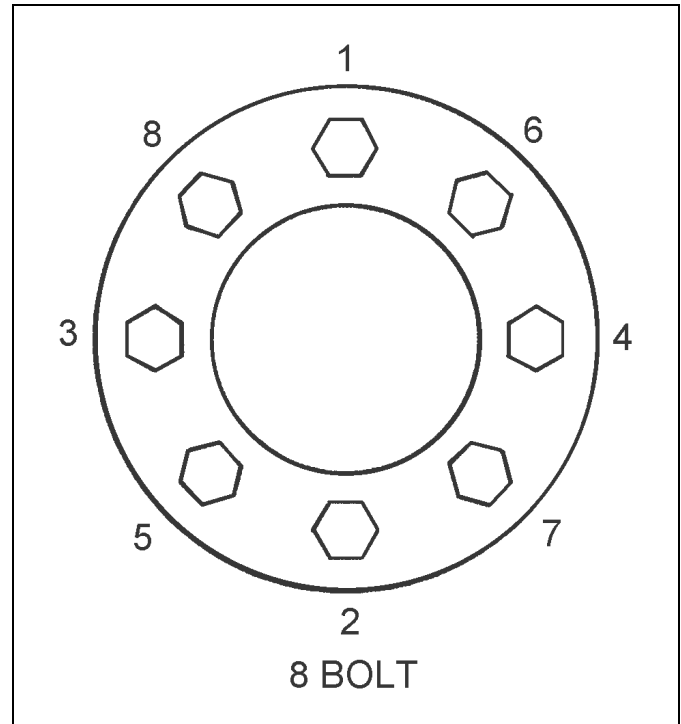

Figure 3-4: Stud Tightening Sequence
4. Install the flange nut and tighten to 50 foot-pounds using the sequence in **Figure 3-4**. Then tighten to full torque of 450-500 ft./lbs.